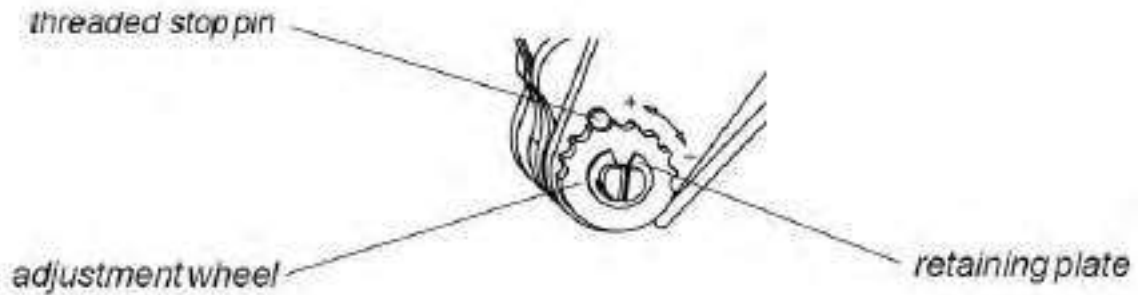

Figure 113
- (5) Slowly close the tool handles, allowing the dies to mate and/or align. Continue closing the tool handles until the ratchet makes the fifth "click", then tighten both die retention screws until snug.
- (6) Install the locator assembly on the stationary jaw and tighten the hex nut.
- (7) Install the contact locator on the movable jaw and tighten hex nut.
- (8) Check the crimp heights. If necessary, adjust as follows:
- b. If the crimp height is greater than recommended, open the plier and remove the threaded stop pin with a screwdriver. Rotate the adjustment wheel COUNTERCLOCKWISE (+). If a looser crimp is required, rotate the adjustment wheel CLOCKWISE (-) (Figure 113).
- c. Replace the threaded stop pin (Figure 113).